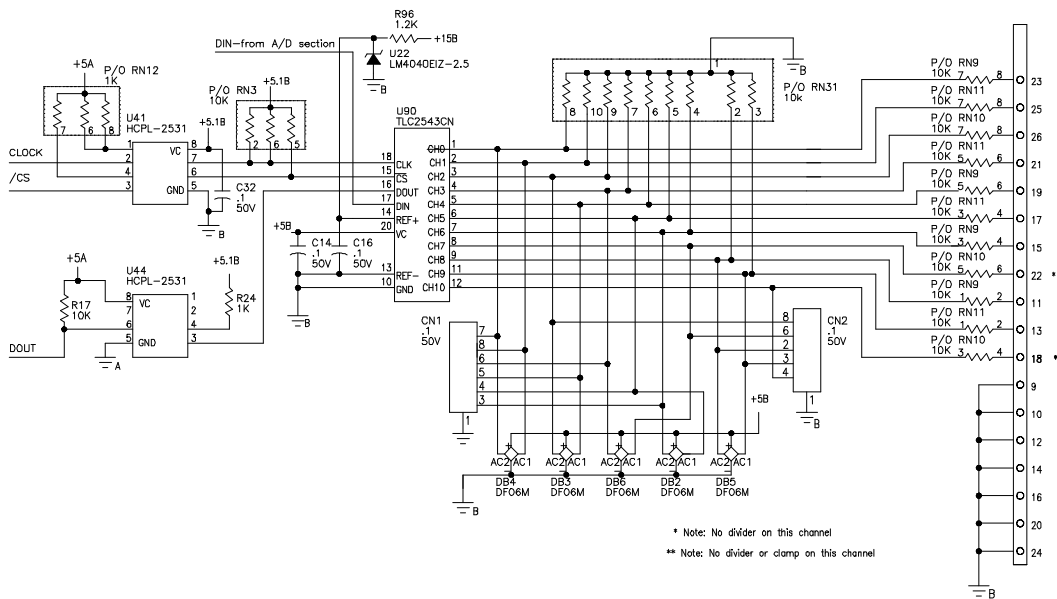

Figure 7, Analog to Digital Converter Schematic
- b. Connect AD0 thru AD5 inputs to DA0 thru DA2 outputs to loop back analog signals if these options are installed (See figures 7 and 8).